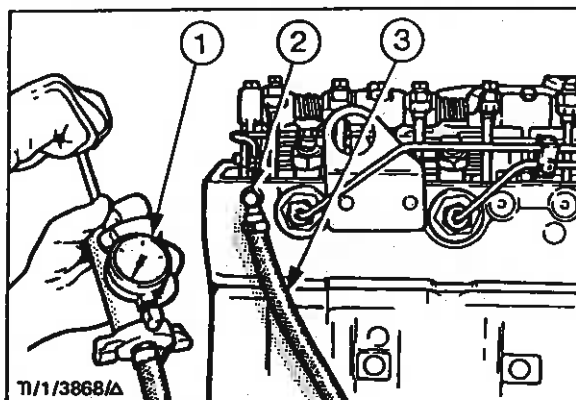

Fig. 18 - Pressure Testing the Leak-Off Rail
2. Remove the external leak-off pipe banjo connection at the rear of the cylinder head and fit a single outlet banjo connection securely in its place - see Fig. 18.